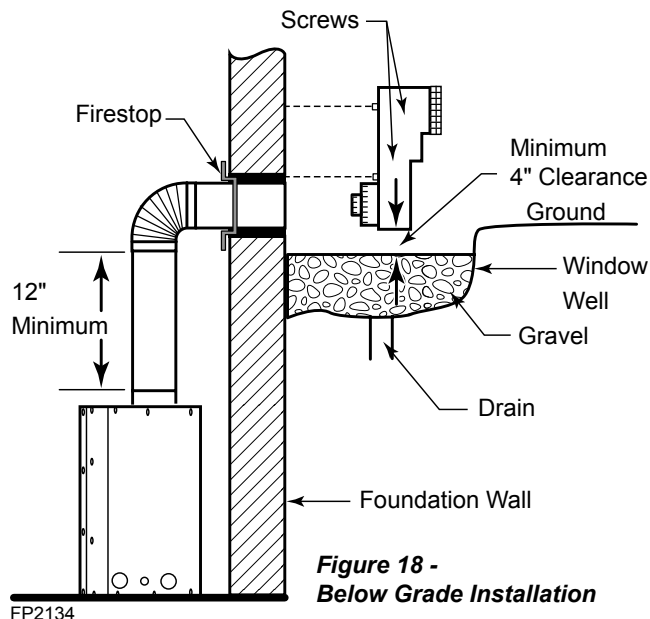

Figure 18 - Below Grade Installation
7. Level the soil so as to maintain a 4" clearance below snorkel. Figure 18
2. Remove soil to a depth of approximately 16" below base of snorkel. Install drain pipe. Install window well (not supplied). Refill hole with 12" of coarse gravel leaving a clearance of approximately 4" below snorkel. Figure 18